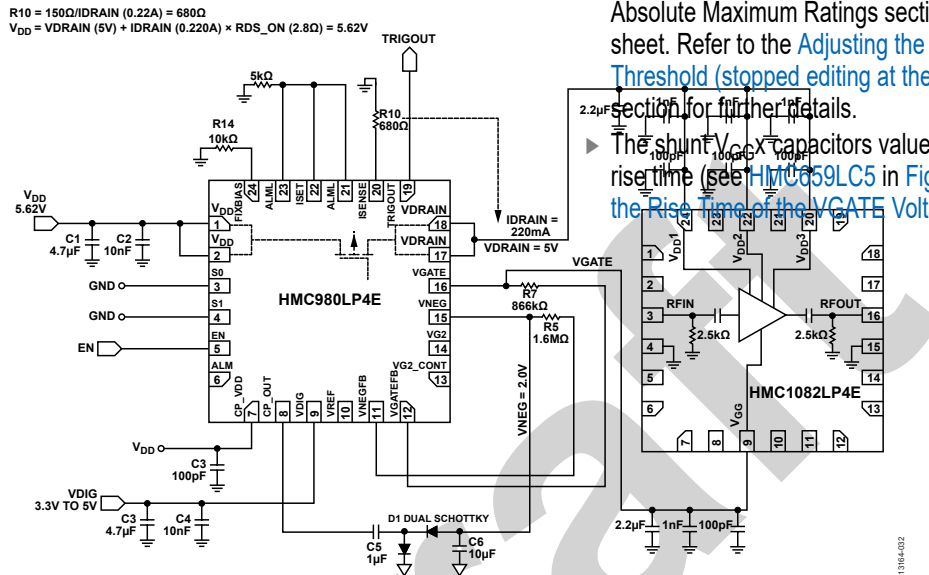

Figure 27.
- ▶ The shunt V_{GS} capacitors value can be reduced to increase the rise time (see HMC659LC5 in Figure 27). Refer to the Reducing the Rise Time of the VGATE Voltage section for further details.